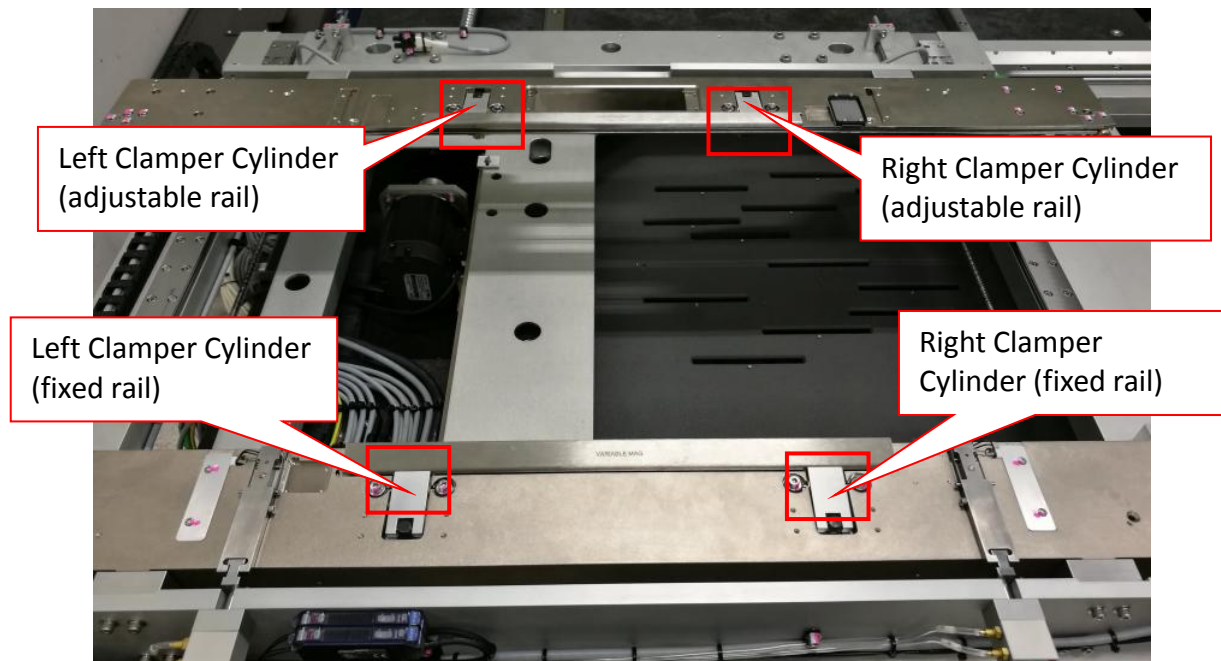

Figure 2 Clamper Cylinder Location
3. Identify defective Clamper Cylinder location by refer to Figure 2.